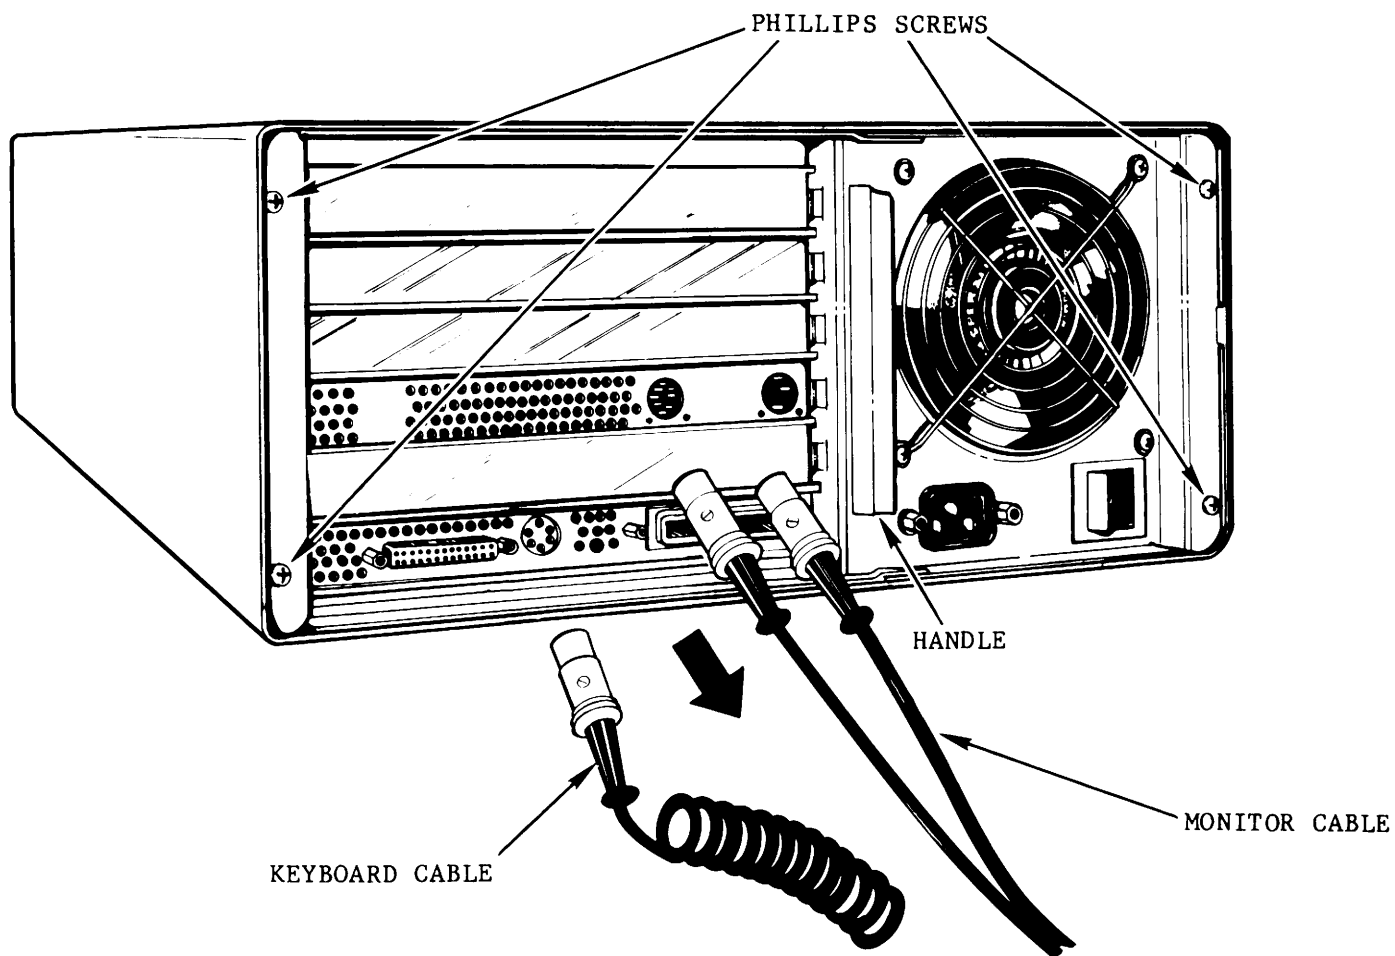

Figure 4-36. Electronic Unit Rear View
- 2) Position the Electronics Unit as shown in Figure 4-36. Unscrew the four Phillips head screws located in the corners of the back panel. Put one hand on the handle on the back panel and place your other hand firmly on top of the electronics unit and pull the electronics unit's chassis out of its cover. Hold the cover in place with one hand while pulling on the handle with your other hand.